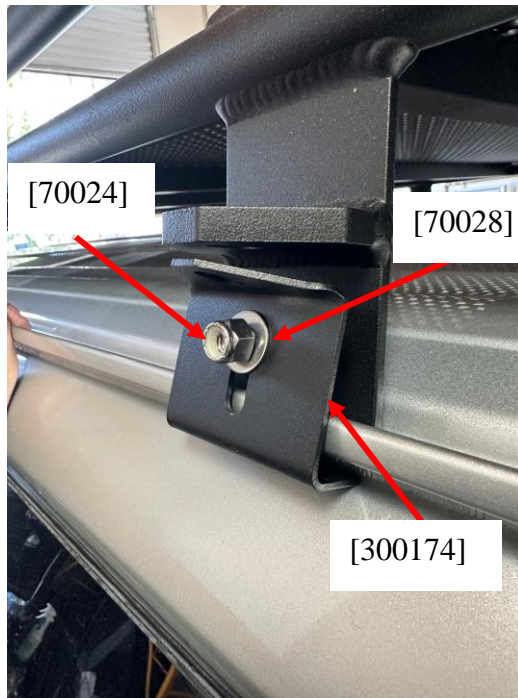

Figure 1
3. Place the roof rack mounting clips (300174) on the preassembled bolts and slide a washer (70028) and Nylock nut (70024) on top as pictured below in figure 1. Snug these down, just barely over finger tight.